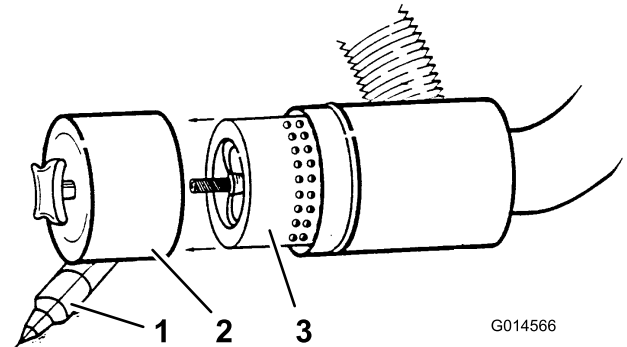

Figure 34
4. Remove and replace the filter (Figure 34).